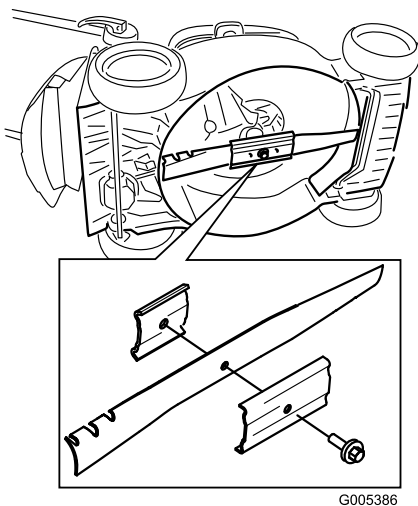

Figure 31
2. Tip the mower onto its side with the air filter up (Figure 31).